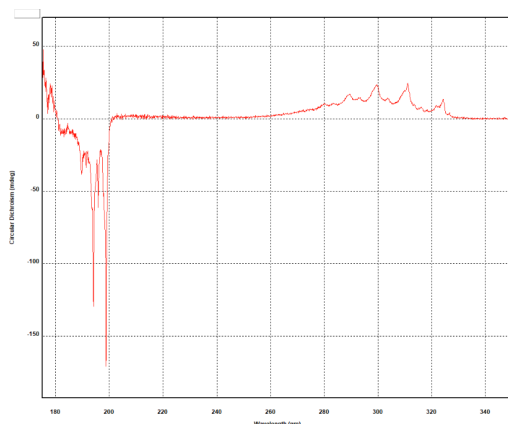

Figure 149: CD spectrum of (R)-3-methylcyclopentanone
9.4.8 (R)-3-Methylcyclopentanone
The CD spectrum of vaporous (R)-3-methylcyclopentanone using a 10 mm path length cuvette, plotted as CD (mdeg) against wavelength (nm), is shown in Figure 149. The acquisition settings are given in Table 18.
Table 18: Acquisition settings for the spectrum in Figure 149